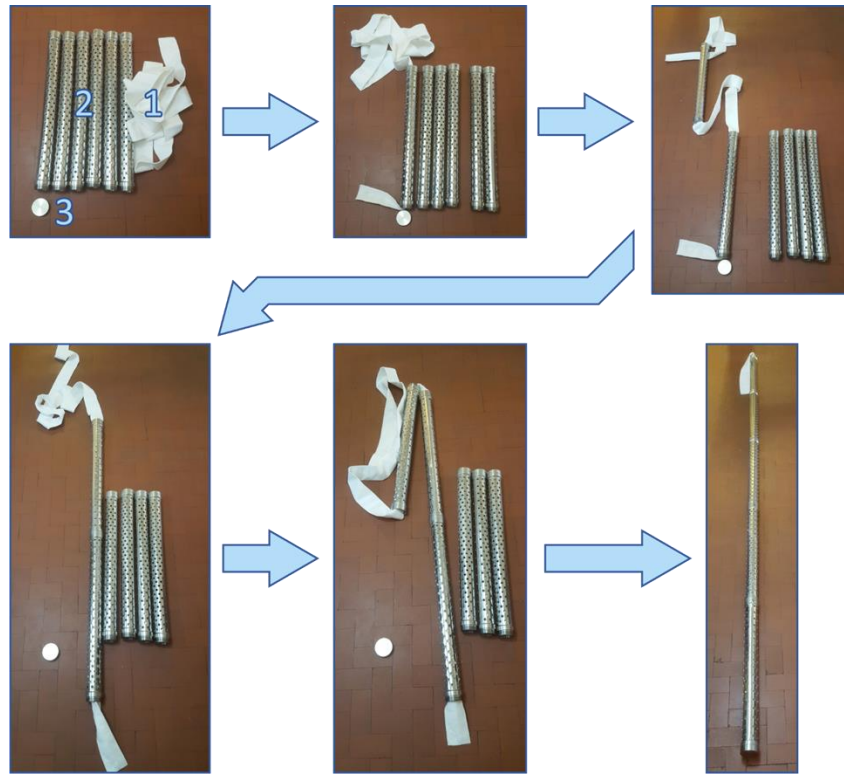

Figure 2: Diagram presenting step-by-step assembly of the Monitoring Well
1. Begin by feeding the PASA through the first stainless-steel perforated pipe segment (Figure 2). **Caution: Make sure the amplifying sleeve is not cut, punctured or snagged on any of the metallic pipe segments.**